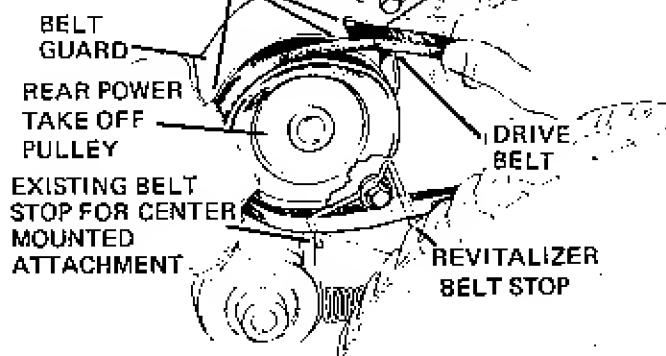

FIGURE 4
6. (See figure 4) Install the revitalizer drive belt over the rear power-take-off pulley of the tractor. If this pulley and the belt guide shown in figure 4 have not been previously installed for use with the revitalizer or rotary tiller, see item (7) and figure (12) of belt replacement in the Maintenance section of this manual for proper positioning.
(See figure 4) The guard over the drive pulley will not often need adjustment, but should be checked and adjusted if necessary so there is clearance between the guard and the top of the pulley. This guard may be adjusted by loosening the capscrew which fastens it to the tractor.